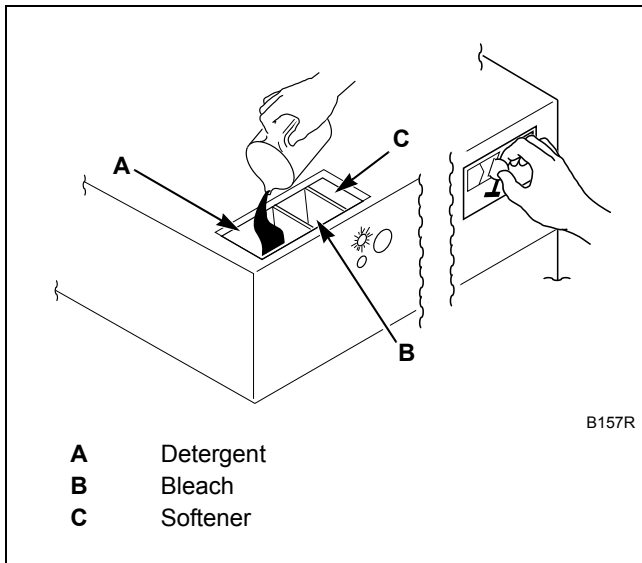

Figure 6
7. Add liquid and/or powder supplies to supply dispenser. Refer to *Figure 6*.
8. Add coins to machine. As each coin is added, the vend counts down to the amount remaining. Refer to *Figure 6*.
9. **When applicable**, add bleach to compartment B when the ADD BLEACH LED is lit. Refer to *Figure 6*.